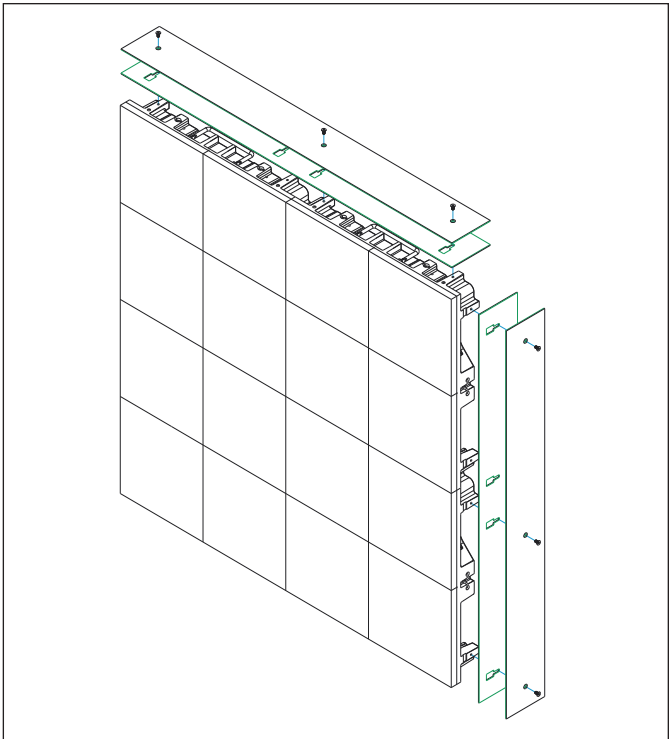

Figure 2: Bring Border Spacer & Border into Position
4. Bring the border spacer and border into position with the rectangular cutout on the border spacer oriented so it is closer to the face of the display than to the slot and the side alignment tab sitting in the rectangular cutout. Refer to **Figure 2**. The border countersinks are centered about the border display depth, so they can be oriented any way. Ensure the countersink is exposed for installation.